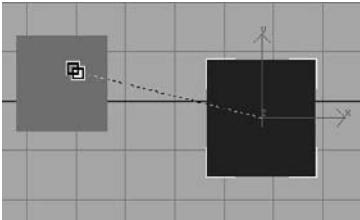

Figure 2.33
3. In either the Front or Perspective viewports, click the box on the right and then drag the mouse over to the box in the middle. A dashed line and a cursor will change while you do this, as shown in Figure 2.33. When you release the mouse button, the two boxes will flash a white outline. This indicates that the link worked. The box on the right is now a child of the box in the middle.